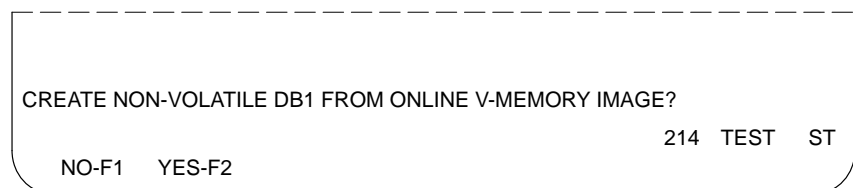

Figure 8-14 Update Non-Volatile Memory Screen
2. Press **Return**. You receive the display shown in Figure 8-14.